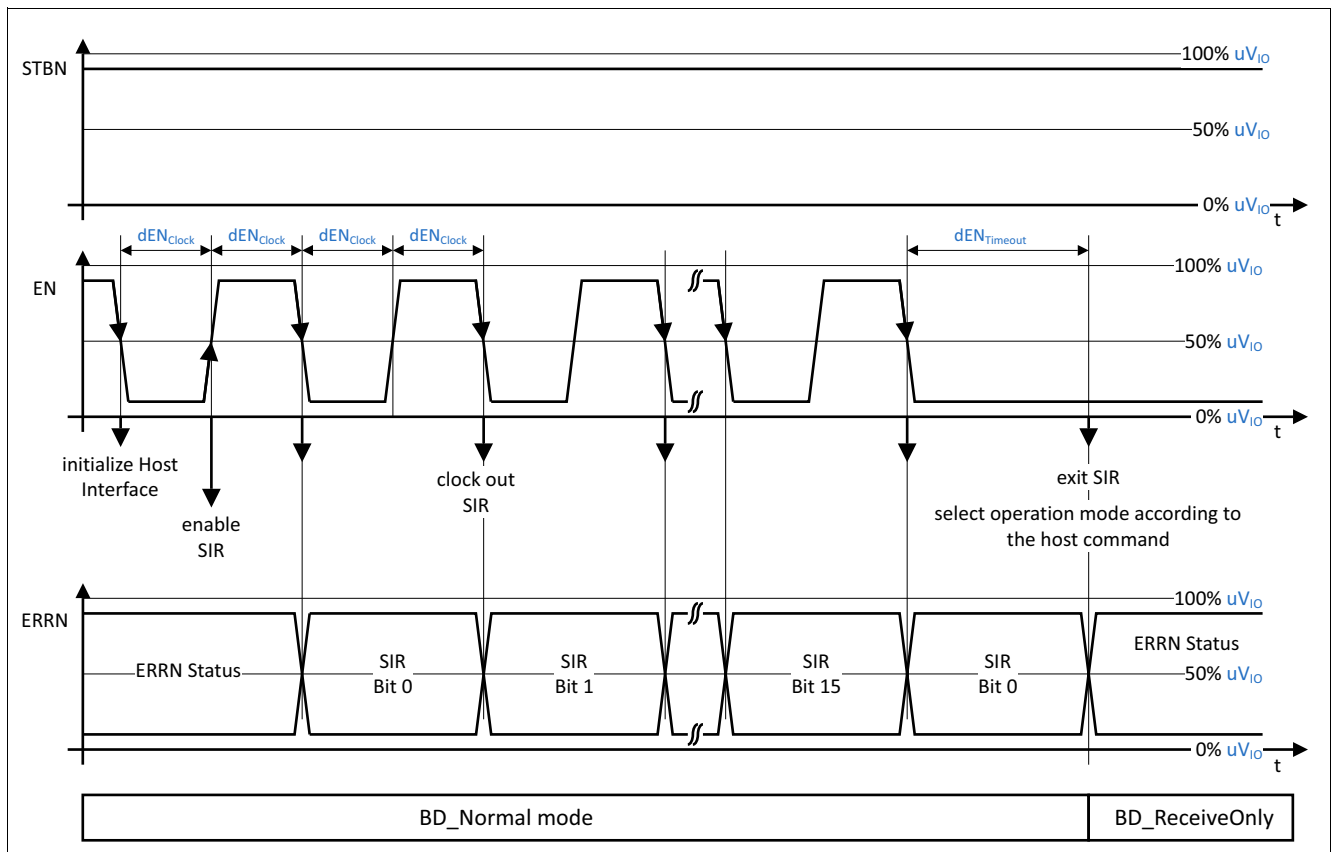
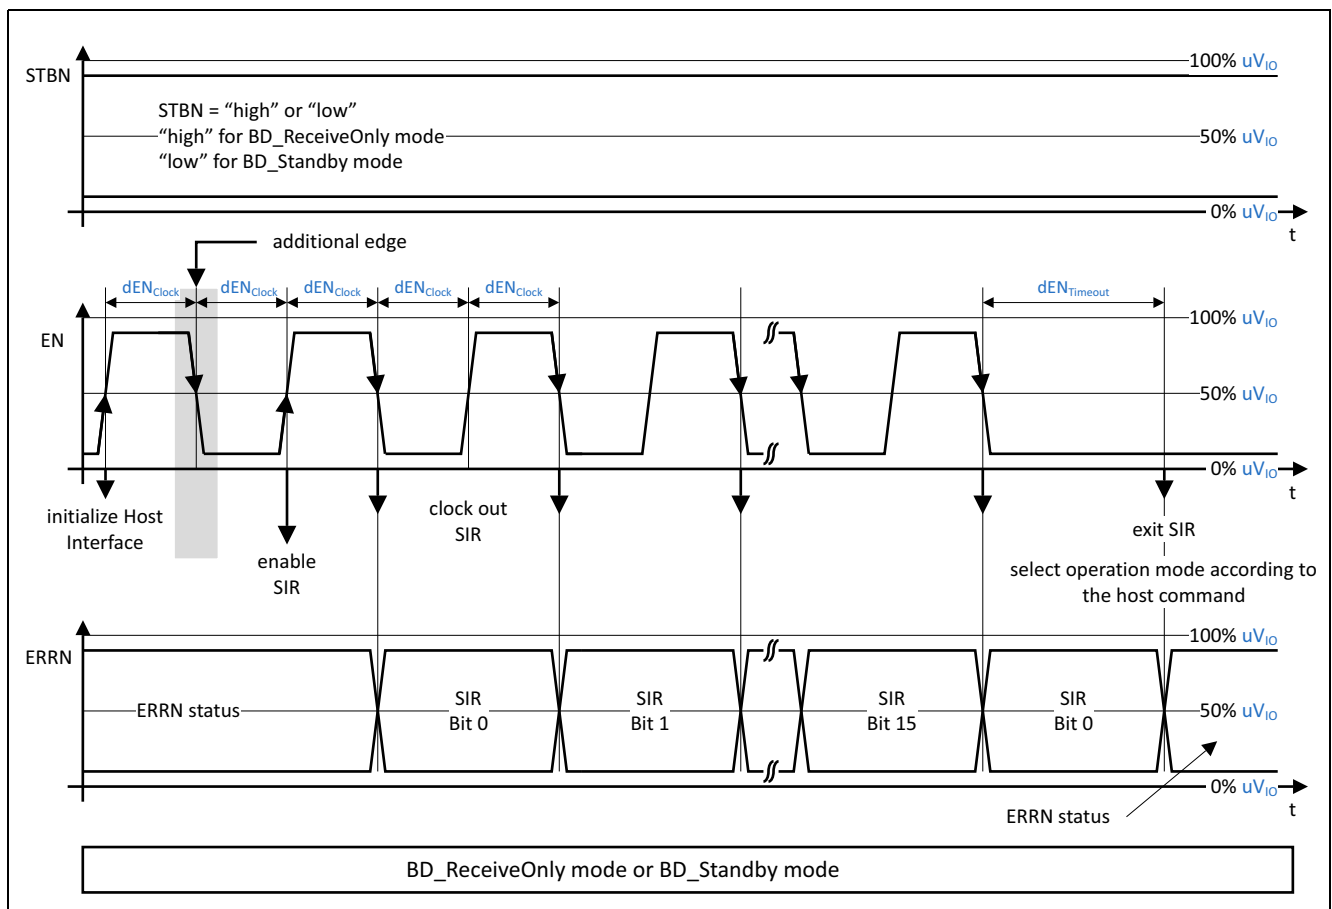

Figure 5 Timing diagram for the SIR readout in BD_Normal mode
Figure 6 SIR readout in BD_ReceiveOnly or BD_Standby mode
During the SIR readout, the EN input acts as the clock and the ERRN output pin acts as the serial “data_out”. Irrespective of the digital signal at the STBN input, the SIR readout is always initialized by a signal change at the EN input pin. When the host command BD_Normal is applied to the Host Interface, the SIR read-out starts with the falling edge at the EN input (see Figure 5). For the host commands BD_Standby and BD_ReceiveOnly the read-out starts with the rising edge at the EN pin (see Figure 6).
1) While the TLE9221SX is in BD_Normal mode, the rising edge is the first signal change after initialization and enables the SIR readout. For the BD_ReceiveOnly and the BD_Standby mode, there is an additional falling edge between initialization and the SIR being enabled (compare with Figure 5 and Figure 6).